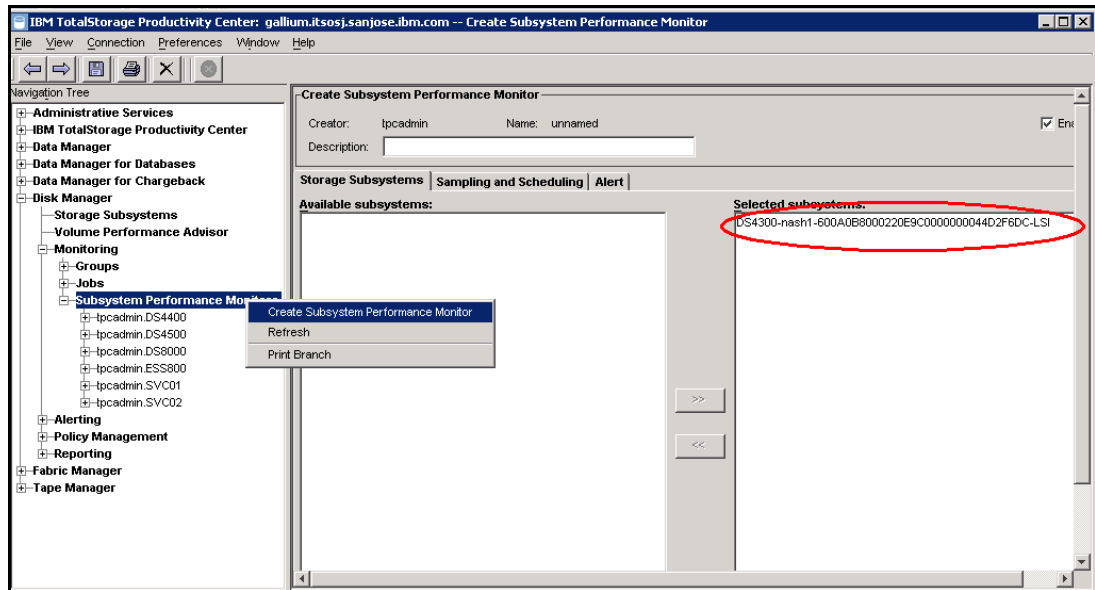

Figure 7-23 Create Performance Monitor job
1. Expand **Disk Manager** → **Monitoring**, then right-click **Subsystem Performance Monitor** and click **Create Subsystem Performance Monitor**. In the storage subsystem tab in the right pane, select the storage subsystem to be monitored and move it to the Selected Subsystem panel, as shown in Figure 7-23.